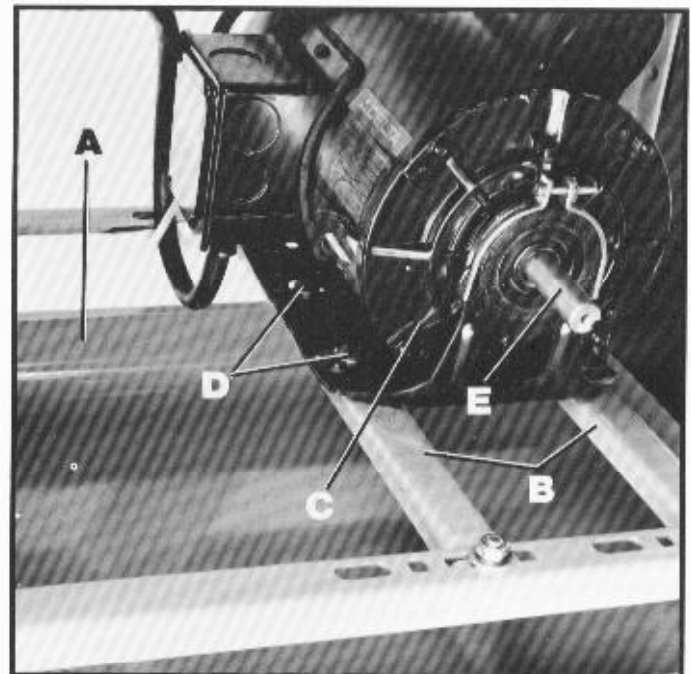

Fig. 2A
1. To make the motor assembly easier, turn stand (A) Fig. 2A, on its side with two horizontal bars (B) down as shown.
2. Position motor (C) Fig. 2A, on two horizontal support bars (B) as shown, and fasten with four 3/4" long carriage bolts, two of which are shown at (D), and four flanged nuts. **IMPORTANT:**